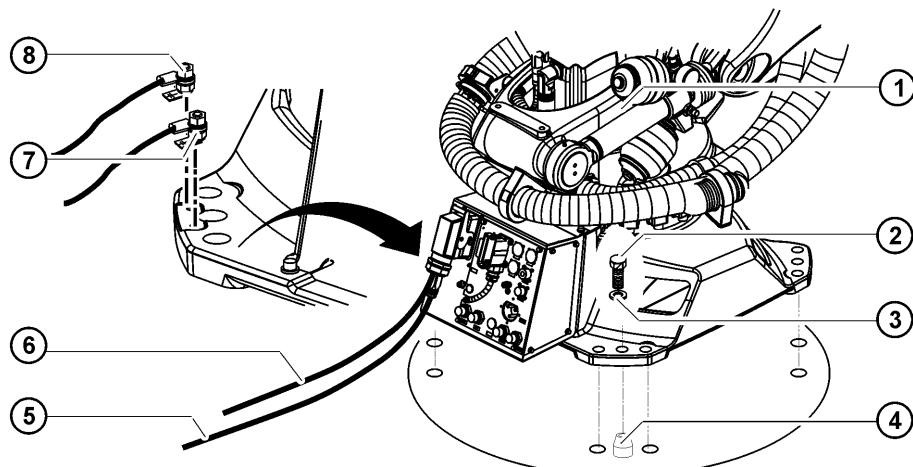

Fig. 8-2: Installing the robot
1. Check that both pins (**>>> Fig. 8-2**) are undamaged and fitted securely.